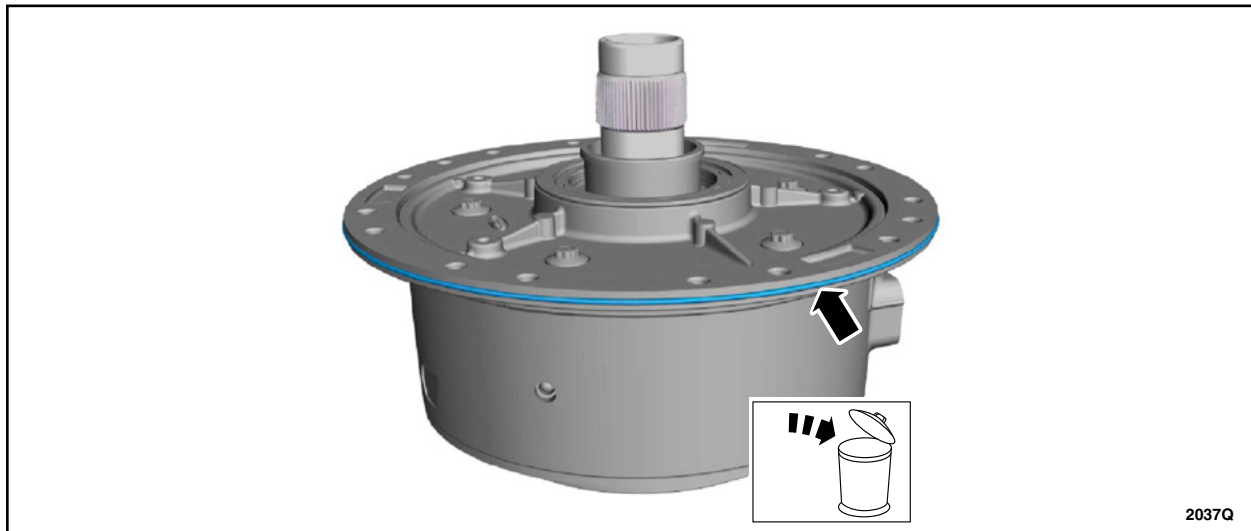

FIGURE 10
12. Remove and discard the front support-to-case seal. See Figure 10.